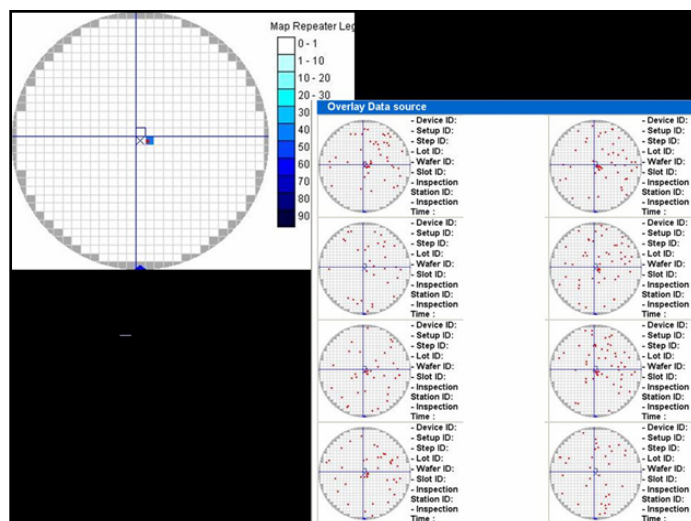

Figure 8 Pattern deform in PR (Photoresist) Etchback
- Pattern deformity in PR (photoresist) etchback – Figure 8